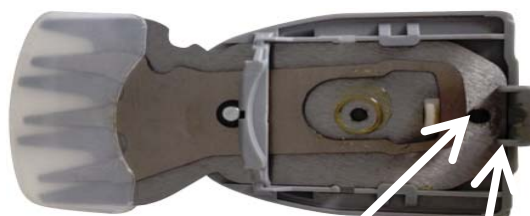
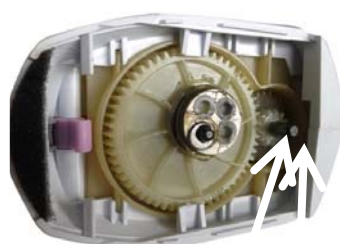

Fig. 1
Fig. 2
2. To attach the grass cutter blade, slide the tab (see fig. 1) into the slot (see fig. 2) in the housing. Align the gear pin (see fig. 2) with the oval slot (see fig. 1) on the blade to make them fit precisely. Push the blade cover plate upward (see fig. 3) until you hear it snap closed. The blade cover plate will be tightened to the unit when it is started.